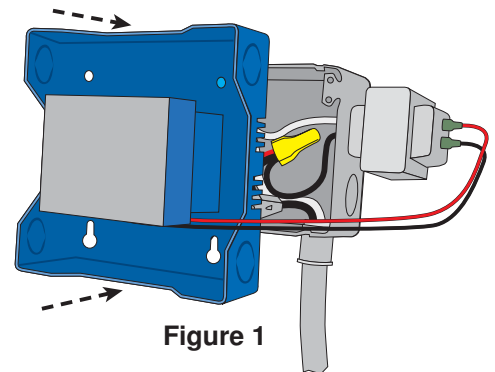
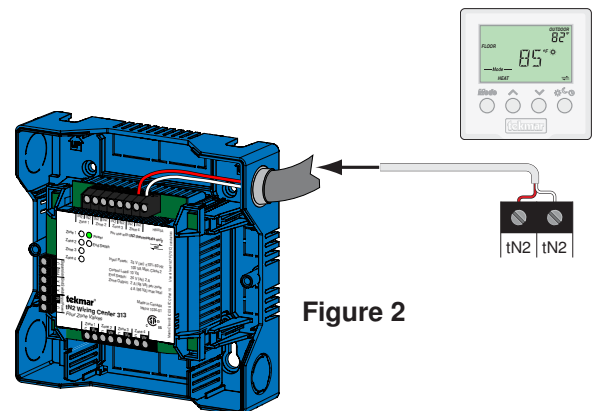

Figure 1
Figure 2
- Wiring will enter through either side knockouts or between the base of the enclosure and the cover on the sides and top. See Figure 1 and Figure 2.
- Connect tN2 conductors to the corresponding terminals on the 313, these connections are not polarity sensitive. See the terminal labelling in Figure 2.